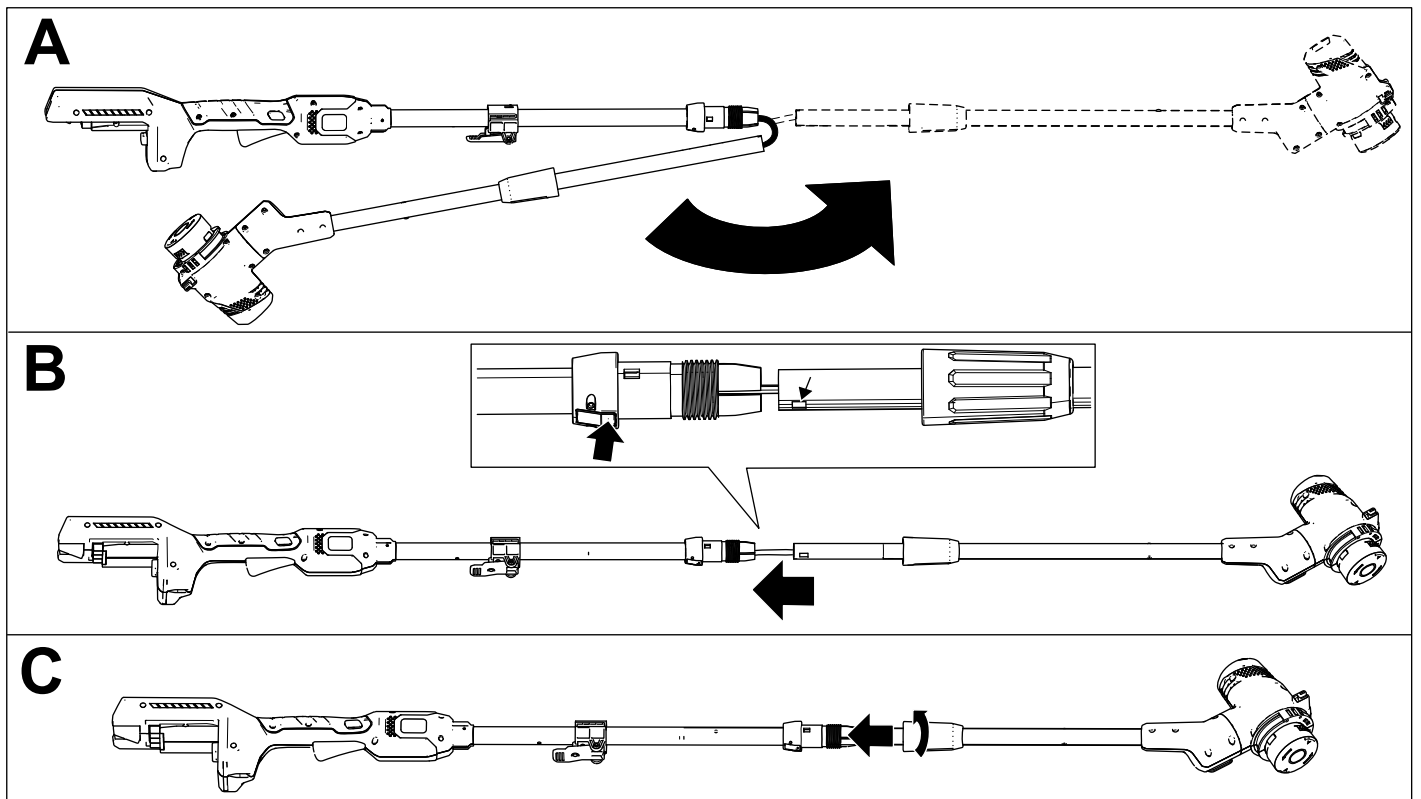

Figure 3
1. Unfold the handle (A of Figure 3).
2. Press and hold the locking button on the upper shaft, align the locking button with the slotted hole on the lower shaft, and slide the 2 shafts together. Once the slotted hole on the lower shaft is past the locking button, release the locking button, and slide the lower shaft into the upper shaft until the trimmer is at the desired height (B of Figure 3).
3. Tighten the lower shaft connector to secure the handle at the desired height (C of Figure 3).